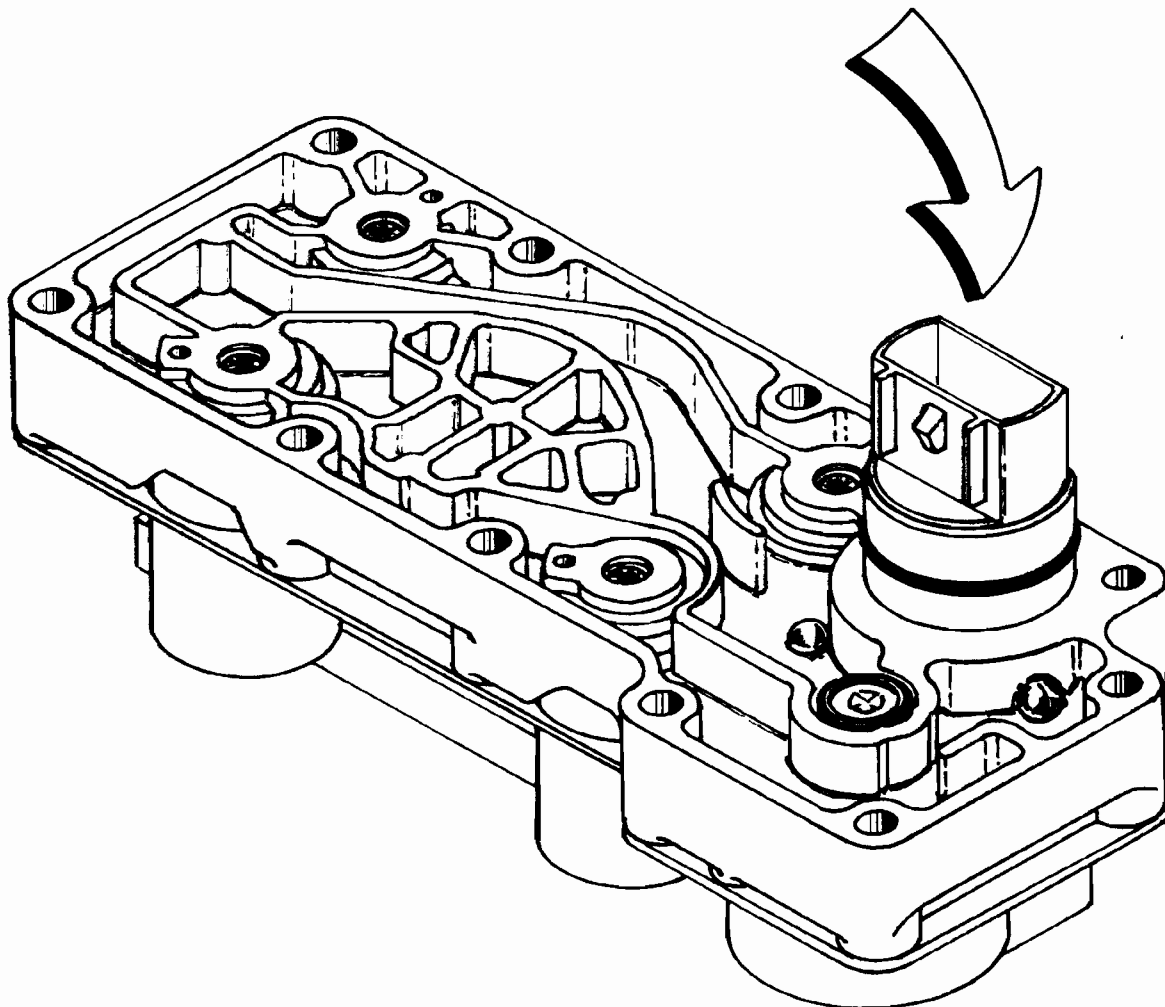
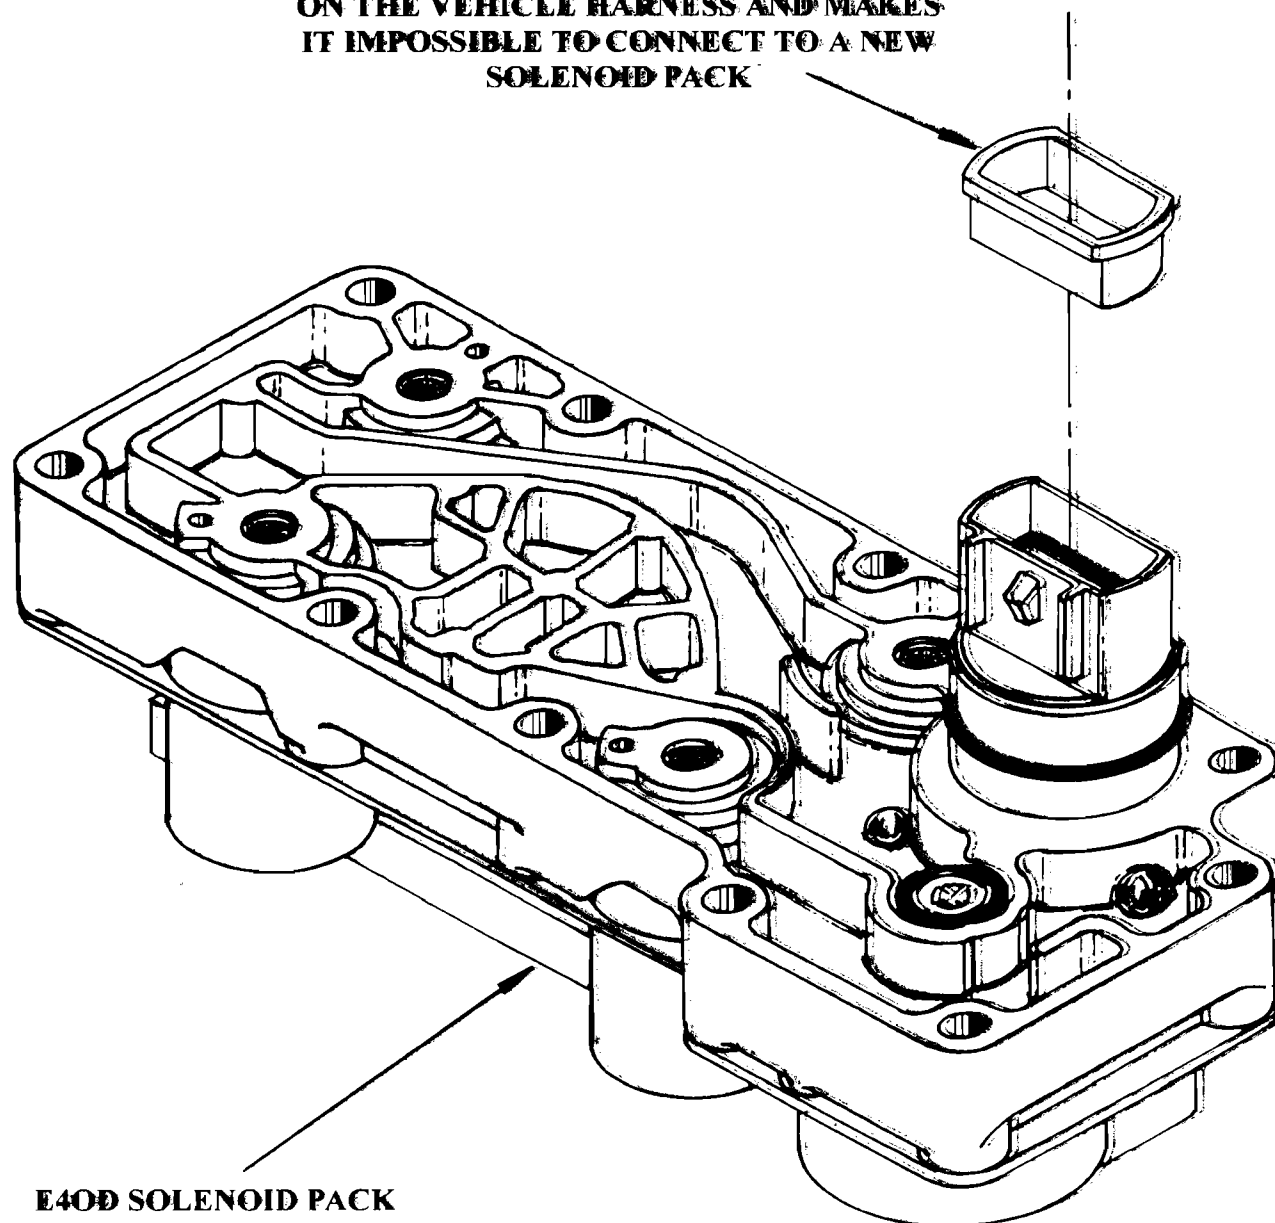

Figure 19
Figure 20
- (1) **SOLENOID PACK** - New design solenoid assembly case connector to accommodate the new design vehicle harness connector. Refer to Figure 19 for identification of the previous design and the new design solenoid assemblies.
**NOTE:** The plastic sleeve incorporated in the previous design solenoid pack has been eliminated on the new design solenoid pack (See Figures 19 and 20). This plastic sleeve will sometimes remain on the vehicle harness connector when it is disconnected. If a new solenoid pack is installed (which includes sleeve), it will be imposible to reconnect the vehicle harness to the solenoid pack until the old sleeve is removed from vehicle harness connector. Refer to Figure 20.